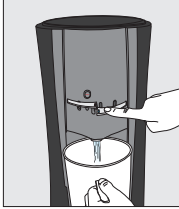
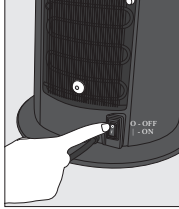
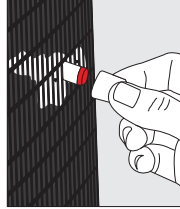

Figure 12
Figure 13
Figure 14
6.3 Use a bucket to drain water from the cold water reservoir through faucets (Figure 12). Turn off hot tank switch as above(Figure 13). Allow 1 hour for the hot water to cool down inside the hot water tank. Remove the drain plug at the rear of the cooler to drain in to a container (Figure 14 and Figure 15).